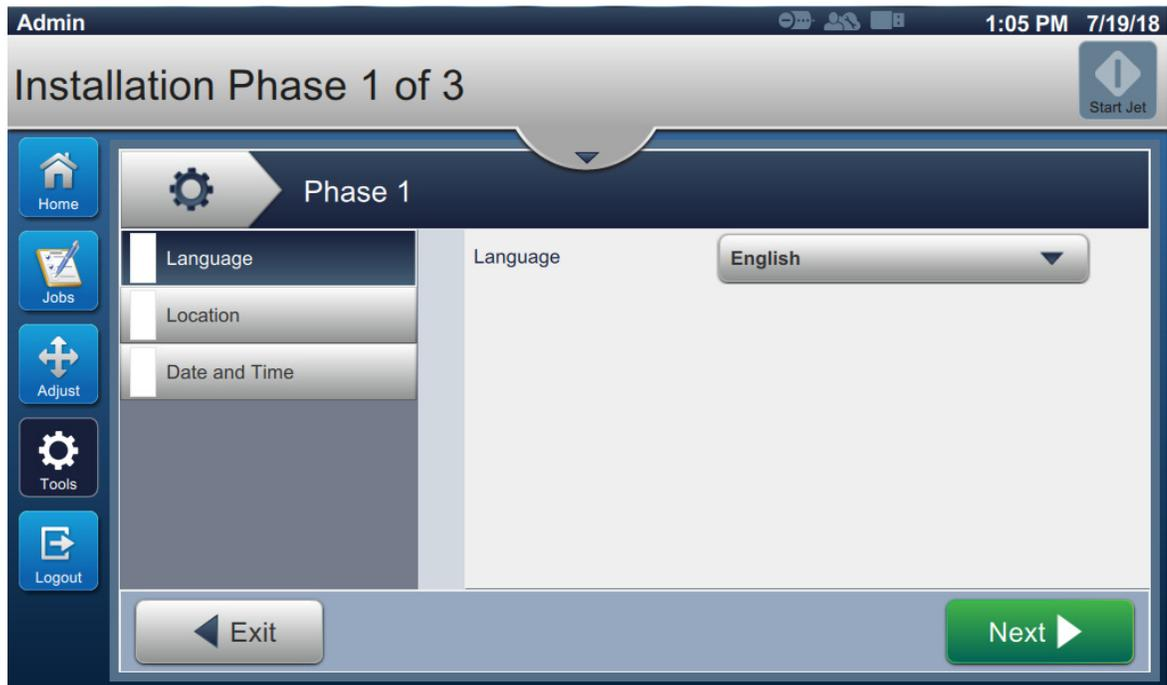

Figure 4-17: Installation phase 1
46. Touch the  button from the Tools screen. The Installation screen opens up in the Phase 1 (Figure 4-17). Set the required information as shown in Table 4-5.